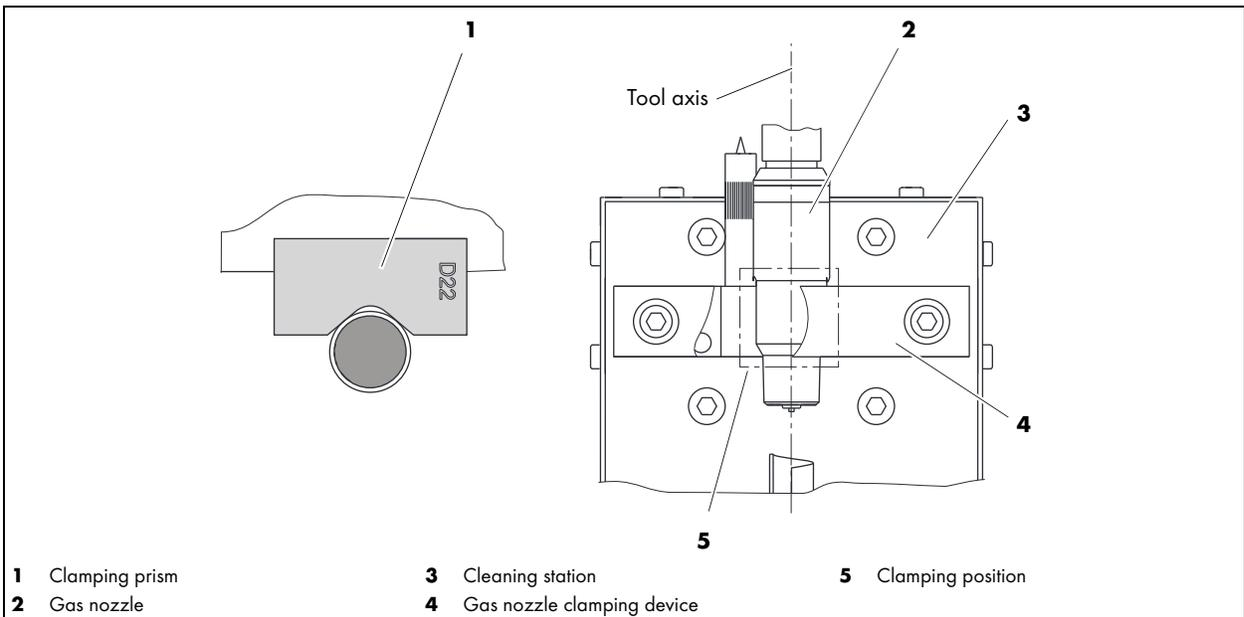

Fig. 18 Setting up the clamping position
- Fig. 18 Setting up the clamping position on page EN-25